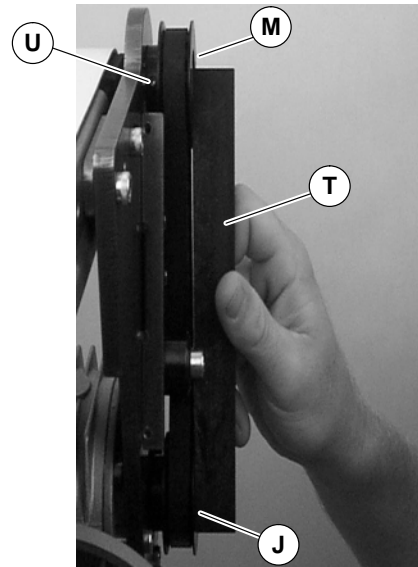

Figure 9
7. Using a straight edge (T of Figure 9), align driven pulley (M) with drive pulley (J). Tighten driven pulley set screws (U).